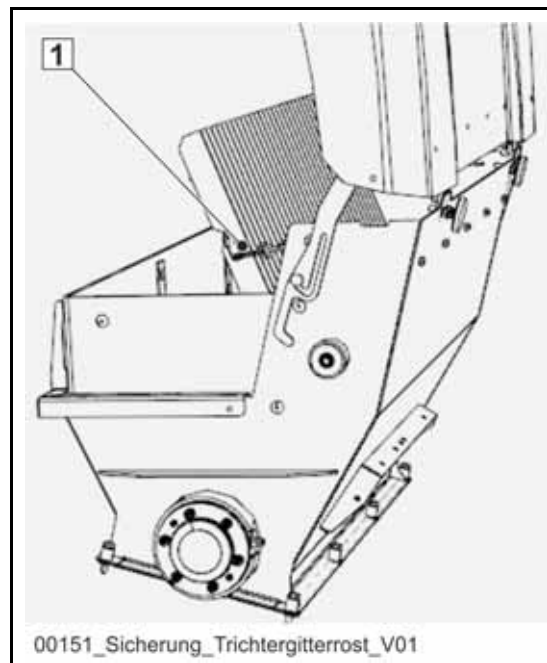

Fig. 251 Example: Securing the raised hopper grate
An end limit switch stops the concrete pump and the agitator if the hopper grate in the concrete filling hopper is opened. The hopper grate must only be opened in exceptional cases. Before lifting the hopper grate, switch the machine off! Lock the raised hopper grate with the hooks (1) (**Fig. 251**).